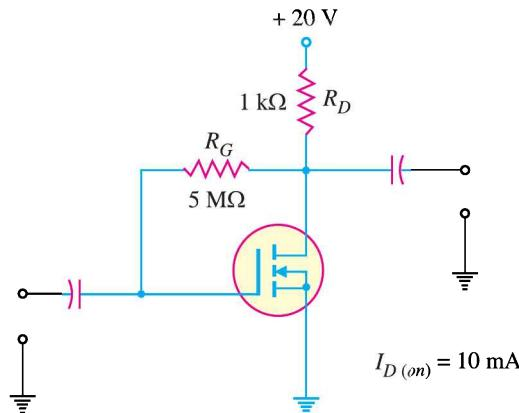

Fig. 19.62
**Example 19.37.** Determine the values of  $I_D$  and  $V_{DS}$  for the circuit shown in Fig. 19.62. The data sheet for this particular MOSFET gives  $I_{D(on)} = 10 \text{ mA}$  when  $V_{GS} = V_{DS}$